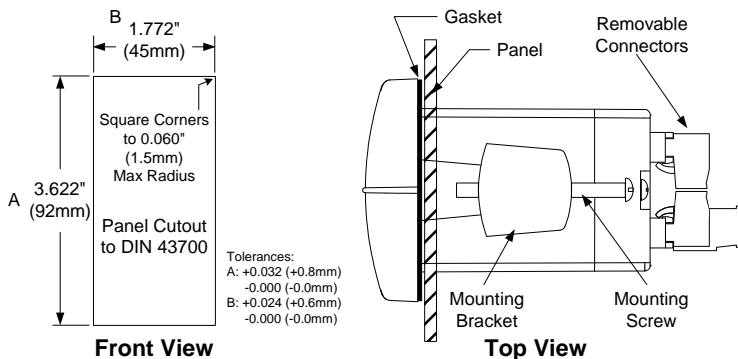

Figure 1. Panel Cutout and Mounting
- Prepare a standard 1/8 DIN vertical panel cutout – 1.772" x 3.622" (45 mm x 92 mm). Refer to Figure 1 for more details.